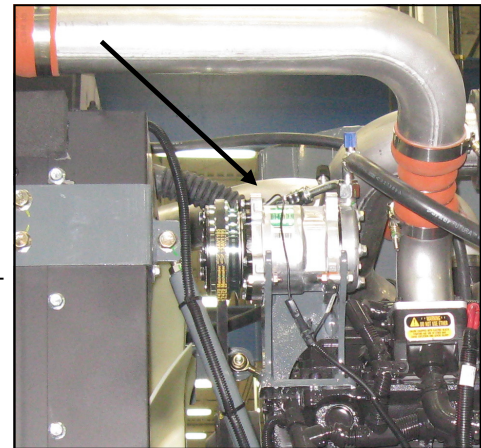

FIG 6.9-2
**TYPE**– The cab on your sprayer is equipped with a R-134a air conditioning system (fig. 6.9-2).